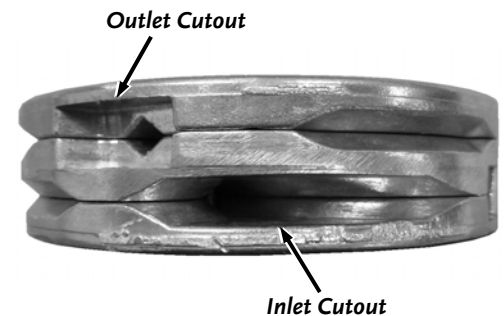

Figure 27
7. Assemble the Plates ensuring that they are aligned properly and the Springs and Cams are seated fully into the Plate grooves. The four Screw holes must be aligned and the two halves of the side cutouts should align from Plate to Plate (**Figure 27**).